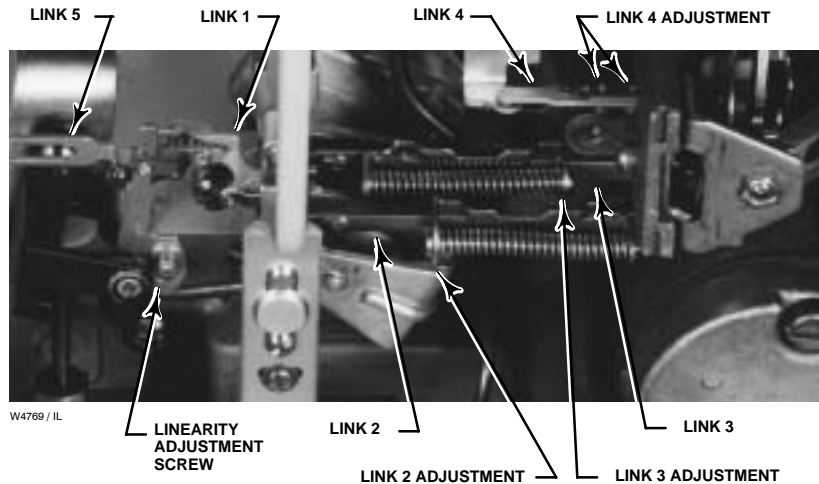

Figure 6-21. Capsular Element Controller Link Locations and Adjustments
This section describes the separate replacement of five links in the controller. Figure 6-21 shows the location of each link. To clarify the location of each link, the links are numbered as follows:
1. Remove the two screws (key 6), and lift off the proportional band indicator cover (key 36).
2. Disconnect link 2 from the process pointer and from the flapper assembly (key 11). Remove the link.
3. Install the replacement link with the screw head nearest the process pointer as shown in figure 6-21. Connect the link to the process pointer only.
2. Disconnect link 3 from the set point indicator and the set point beam assembly (key 23).
4. Install the replacement link with the screw head toward the set point beam assembly as shown in figure 6-21.
2. Disconnect link 4 from the bellows bracket (key 31) and the flapper assembly (key 11).
3. Connect the replacement link to the flapper assembly so that the two adjusting screws on the link are nearest to the bellows bracket (key 31) and so that the screw heads are facing the bottom of the controller as shown in figure 6-21.